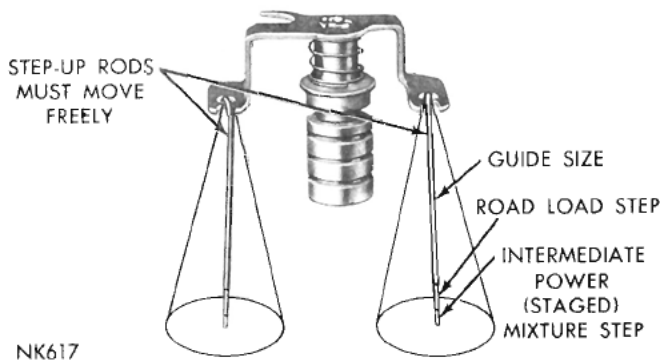

Fig. 7—Step-up Rods Free Play
(7) Before installing the step-up piston, be sure the step-up rods are able to move freely, each side of the vertical position, as shown in (Fig. 7). The step-up rods must be straight, smooth and free to move forward and backward from vertical.